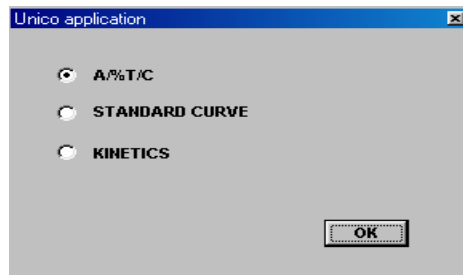
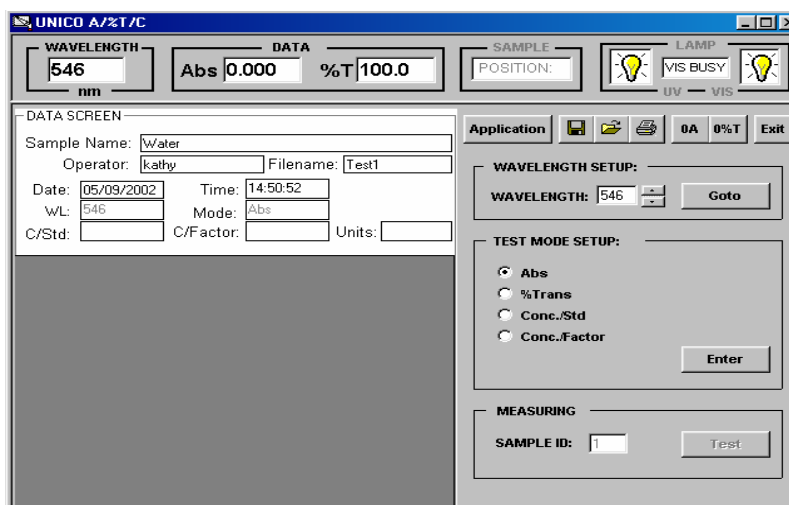
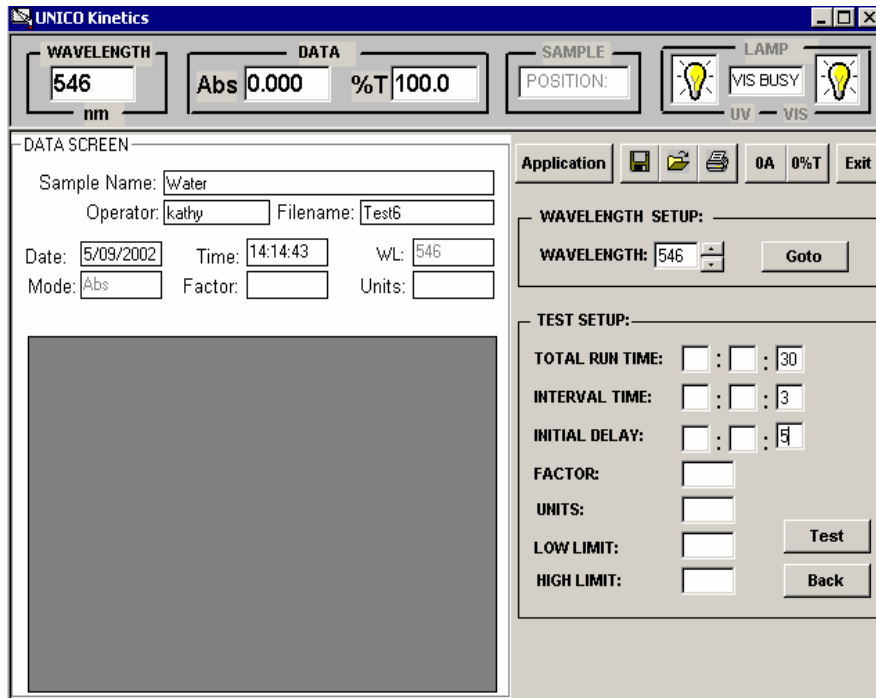

Figure-17 Test Methods
Figure-18 Main Screen of A/%T/C
Figure-30 Kinetics Main Screen
- **Application** button: select the three test methods: **A/%T/Conc**, **Standard Curve**, **Kinetics** (Figure-17 Test Methods)
At the Main Screen, click **Application**, check **A/%T/C** (Figure-17), and click **OK** button to enter the Main Screen of A/%T/C (Figure-18). Type **Sample Name**, **Operator** (name), **Filename**, and **Date** into the appropriate text fields.
At the **Main Screen**, click **Application**, check **Standard Curve** (Figure-17), and click **OK** button to enter the **Main Screen of Standard Curve** (Figure-26). Type **Sample Name**, **Operator** (name), **Filename**, and **Date** into the appropriate text fields.
At the **Main Screen**, click **Application**, check **Kinetics** (Figure-17), and click **OK** button to enter the **Main Screen of Kinetics**. Type **Sample Name**, **Operator** (name), **Filename**, and **Date** into the appropriate text fields (Figure-30).